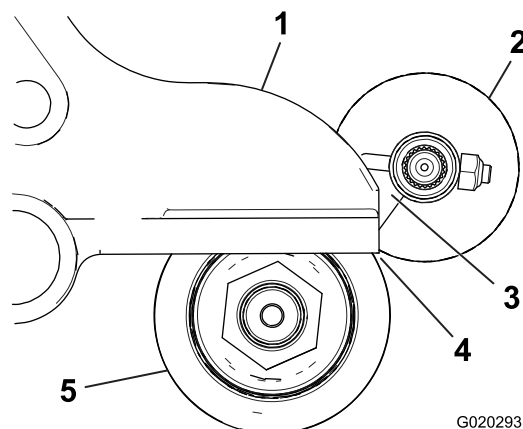

Figure 9
2. Position the roller brush so that it just touches or rests on the rear roller (Figure 9).